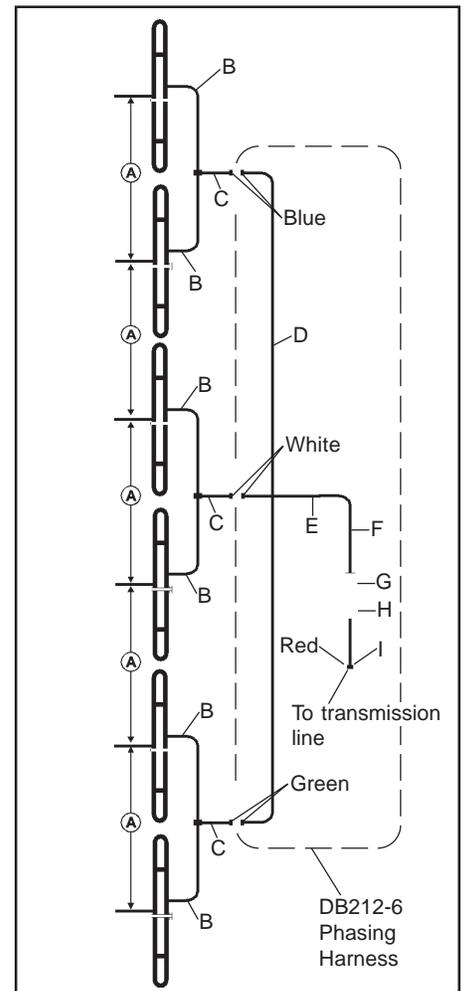

Figure 10 - DB212-6
Installing the DB212-6 (refer to Figure 10):
7. Connect the antenna feed cable (see Figure 10) from Dipole 2 to the "Tee" connection on the phasing harness attached to Dipole 1. Make the connections snug but do not apply heavy force with pliers.
10. Using the DB212-6 phasing harness, connect the three completed DB212-2 units together (see Figure 10). Be sure to match the color codes. Make all connections snug but do not apply heavy force with pliers. This should leave the phasing harness transformer (color coded red) open for connection to the station transmission line.